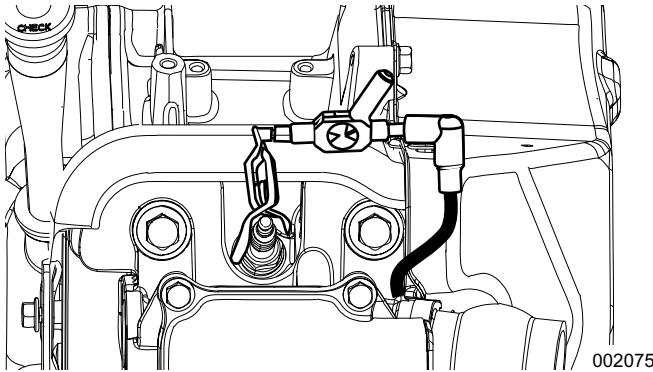

Figure 4-36. Testing Ignition System
3. See Figure 4-36. Ground the spark tester clamp by attaching to the cylinder head.